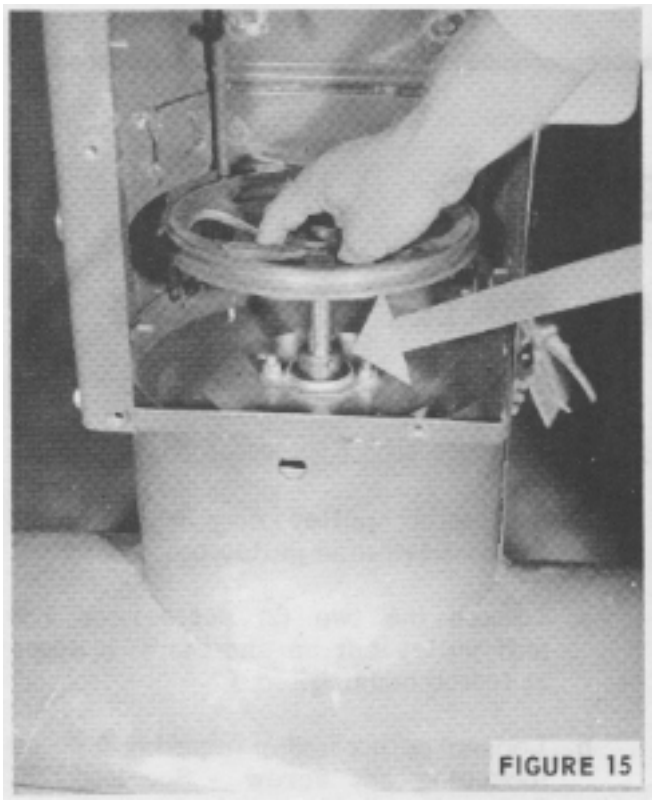

FIGURE 15
- a. Loosen the two (2) set screws and pull pulley out on shaft until it stops at frame housing.
- b. Loosen collar under impeller disc by loosening set screw - See Fig. 15.